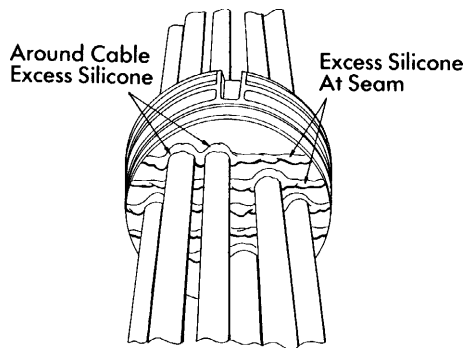

FIGURE 26 - COMPLETED APPLICATION OF TIP CABLES
- 6.32** The silicone will be extruded out from all of the seams. **DO NOT REMOVE EXCESS SILICONE AT THIS TIME.** (Figure 26)